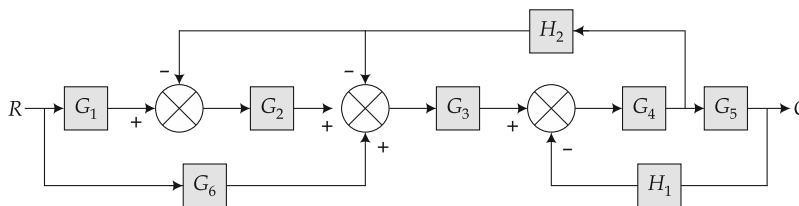

Fig. 2.64
6. Obtain the transfer function of the system shown in Fig. 2.64.